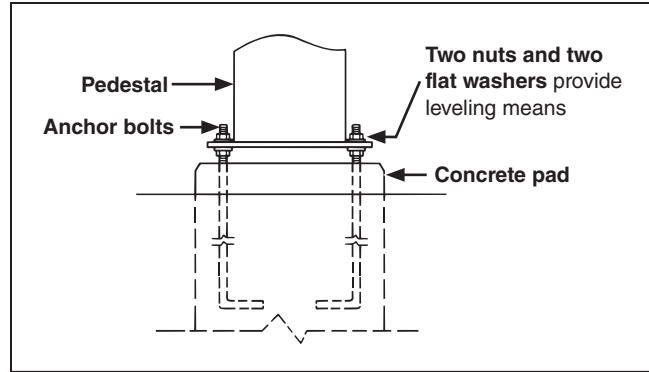

Figure 3. Pedestal anchor-bolt mounting detail.
- STEP 1.** Install the lower set of anchor-bolt nuts and flat washers onto the pre-installed anchor bolts. Level all anchor bolts to the same height, leaving space below and above the bolt for leveling. See Figure 3.
- STEP 4.** Lower the pedestal onto the anchor-bolt nuts and flat washers. Loosely secure a flat washer and nut to each anchor bolt. See Figure 3. Remove the lifting slings and eyebolts.
- STEP 5.** Adjust the lower set of anchor-bolt nuts to plumb and level the pedestal. The upper set of anchor-bolt nuts should remain loosely attached. See Figure 3.
Lubricate the bolts to facilitate tightening. Use a level to verify the high-speed base is horizontal, both lengthwise and sideways. Adjust the lower set of anchor-bolt nuts at the pedestals to achieve level. See Figure 3 on page 12.